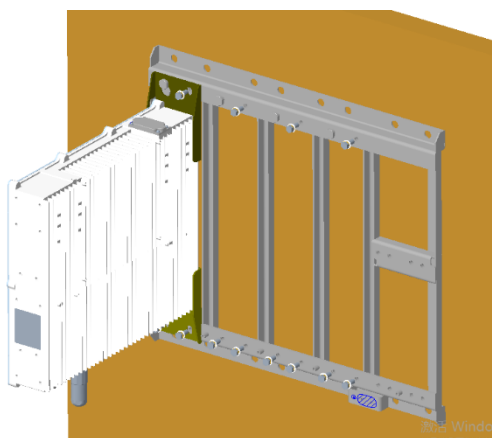

Figure 78. Wall mounted installation
Step 4: Connect the device and the mounting rack with 3 M8x16 bolts. All devices and the mounting rack are connected in the same way, as shown in Figure 78.